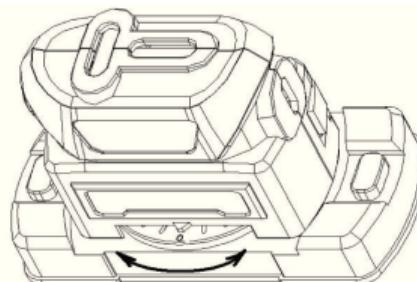

Fig. 6
6. If need a line with any angle to the above laser line, keep the tool static, rotate the alignment plate until the “0” scale align to the pointer. (see Fig.6)